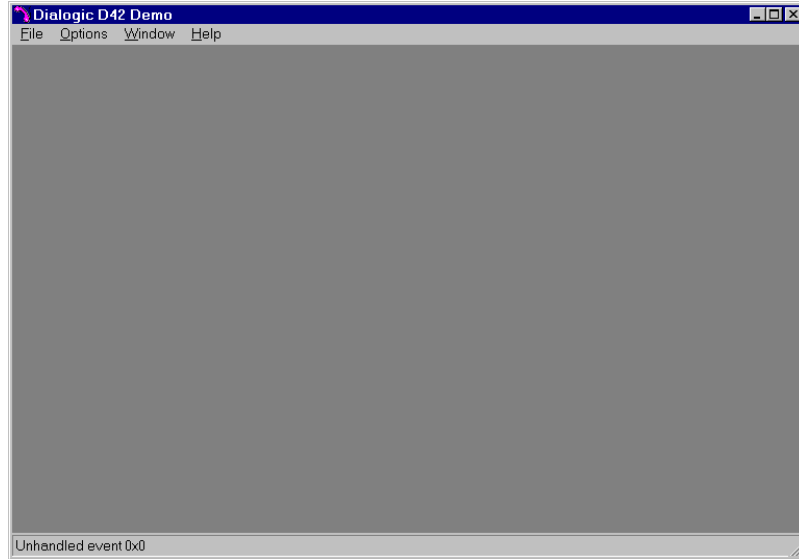

Figure 19. Dialogic D42 Demo Window
3. The *Dialogic D/42 Demo* window opens, as seen in *Figure 19*.